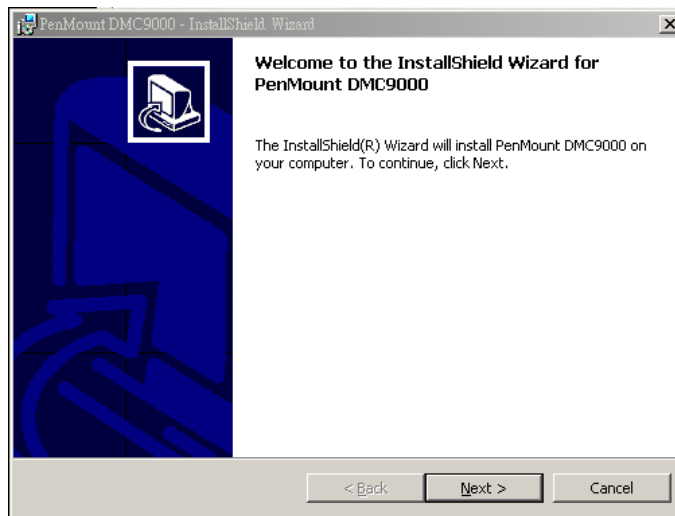

Figure 7-24: Welcome Screen
- Step 3:** A welcome screen appears (**Figure 7-24**). To continue the installation process click **NEXT**.